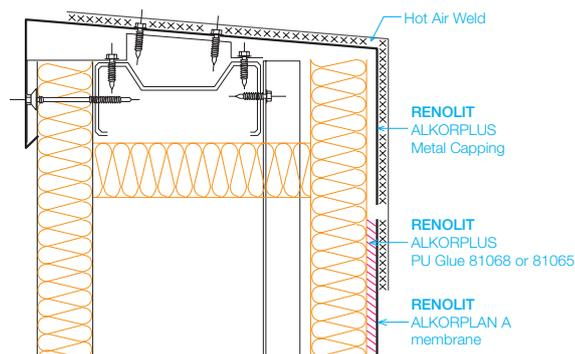

Fig. 2. gluing of parapets
- A mechanical edge restraint along the perimeter of the roof and around roof penetrations is not required where the roofing membrane is fully adhered in the perimeter area (minimum 2 m) and to the parapets. (See Fig. 2) The RENOLIT ALKORPLUS81068 or 81065 PU glue is applied to the surface of the upstand with a minimum consumption of 300 g/m2. The parapet will have a RENOLIT ALKORPLAN metal trim, but the compressive foam and intermediate fastening can be omitted.